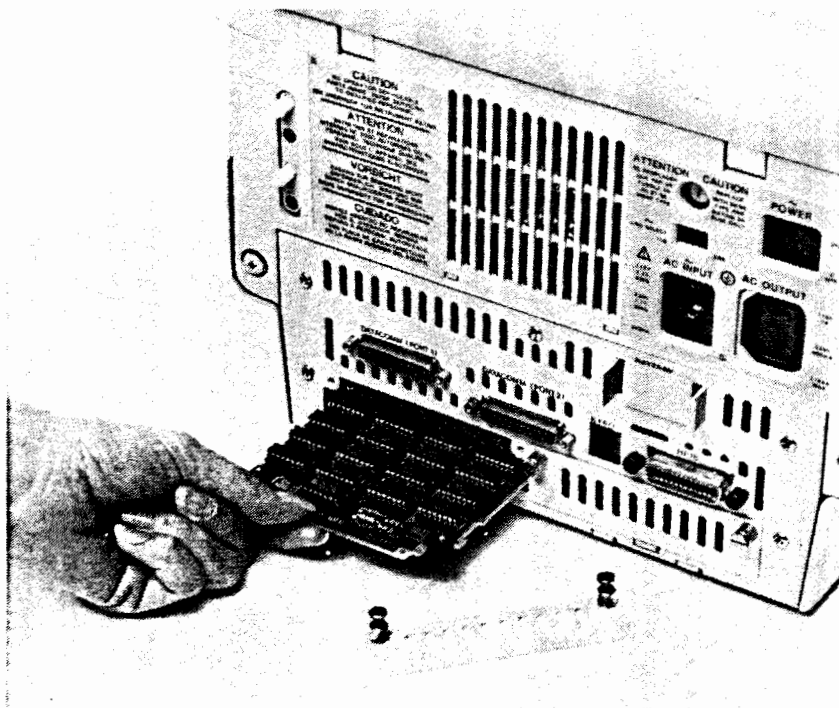

Figure 8-2. Removing Accessory Board
2. Remove the accessory board by pushing the two extractors outward (to free the board from the front plane edge connector) and then carefully pulling the board out of the unit (see figure 8-2).